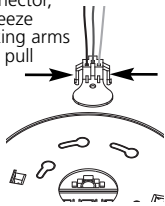
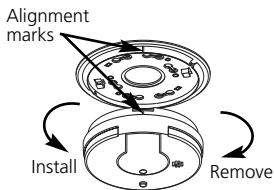

FIGURE 6
FIGURE 7
5. Plug the AC QUICK CONNECTOR into the back of the alarm (see figure 6), making sure that the locks on the connector snap into place. Then push the excess wire back into the electrical box through the hole in the center of the trim ring.
6. If you have finished all the WIRING, BATTERY INSTALLATION AND TRIM RING MOUNTING STEPS, you can install the alarm on the trim ring. Alignment marks are provided on the side of the alarm and on the trim ring (see figure 7).
7. Install the alarm on the trim ring with the indicating marks aligned and rotate the alarm in the direction of the "ON" arrow on the cover until the alarm snaps in place (see figure 7).
To replace the batteries or the lamp (models i12040A and i12080A only), remove the alarm from the trim ring by rotating the alarm in the direction of the "OFF" arrow on the cover (see section 3, figure 7). To disconnect the AC power harness, squeeze the locking arms on the sides of the Quick Connector while pulling the connector away from the bottom of the alarm (see section 3, figure 6).